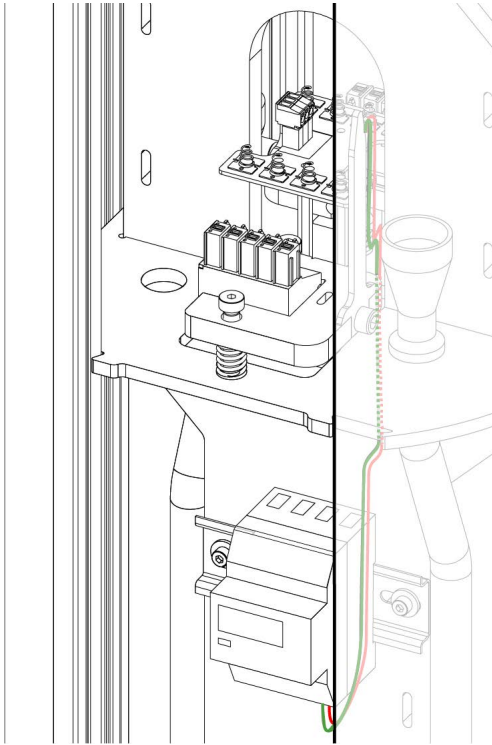

Fig. 44: Routing the MID meter signal cables.
3. In the case of a Enelion VERTICA pole equipped with a Enelion VERTICAN module, connect two signal wires to the socket located on the PCB plate mounted in the Enelion VERTICA Pole. Connect the red wire to the ,A+' port, and the green wire to the ,B-' port - see Figure 44.